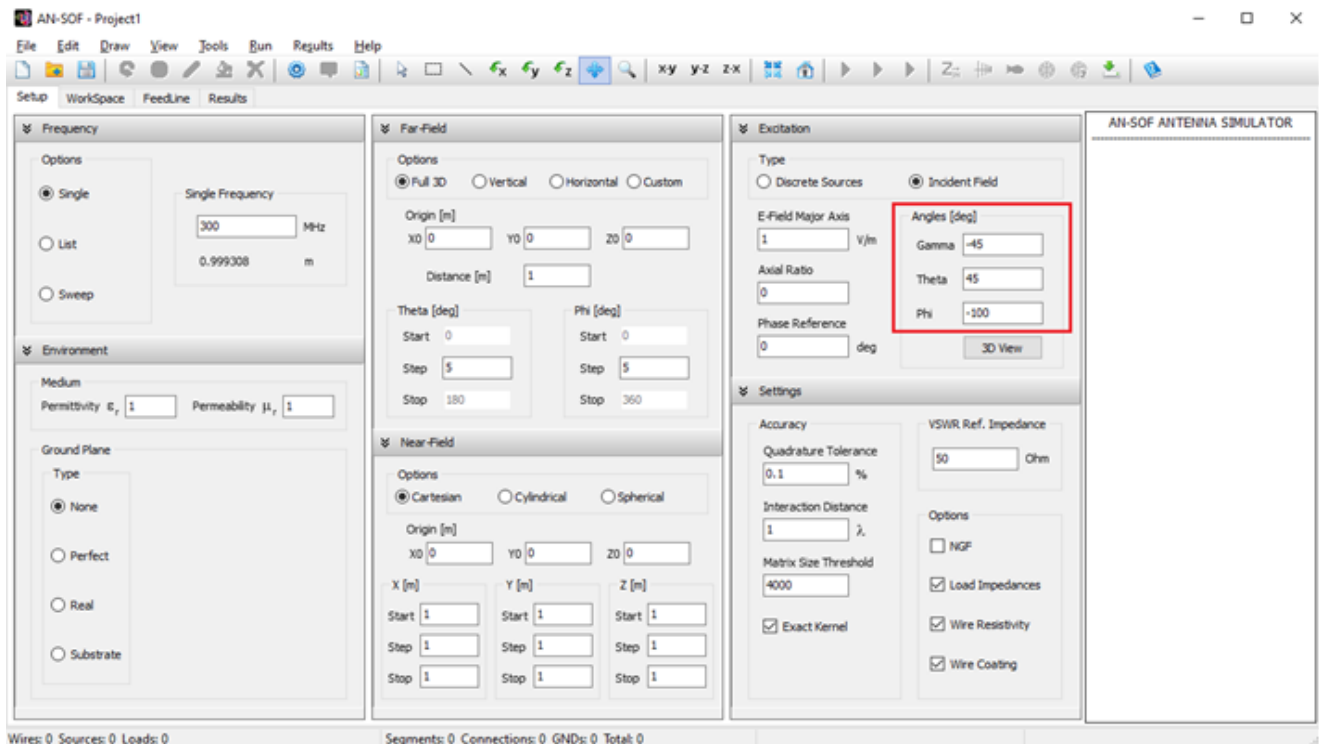

Fig. 2: The Gamma, Theta and Phi angles entered in the Incident Wave dialog box will appear in the Excitation panel of the Setup tabsheet.
4. Close the Incident Wave dialog box. The angles that have been entered in the dialog box will appear in the Excitation panel, Fig. 2.